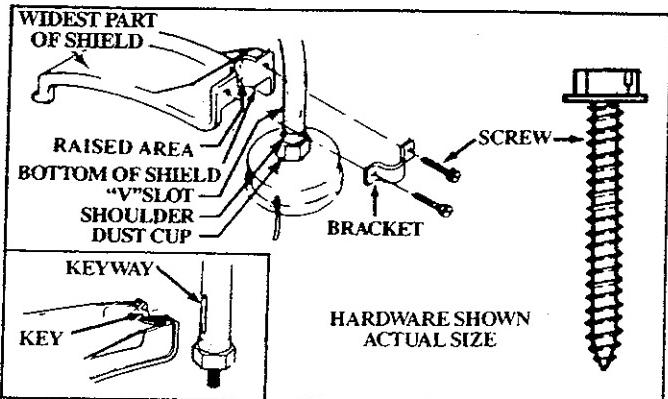

Figure 4
3. SHIELD — Figure 4
Failure to install the shield in the position shown in Figure 4 and 5 can result in serious injury to the operator. The length of the shield must be aligned with the length of the drive shaft housing. Direct the widest part of the shield toward the engine.
- a. Match the Key (Raised area) on the Shield with the Kayway ("V" slot) on the Drive Shaft Housing. Figure 4.
- c. Install the Screws as shown in Figure 4.